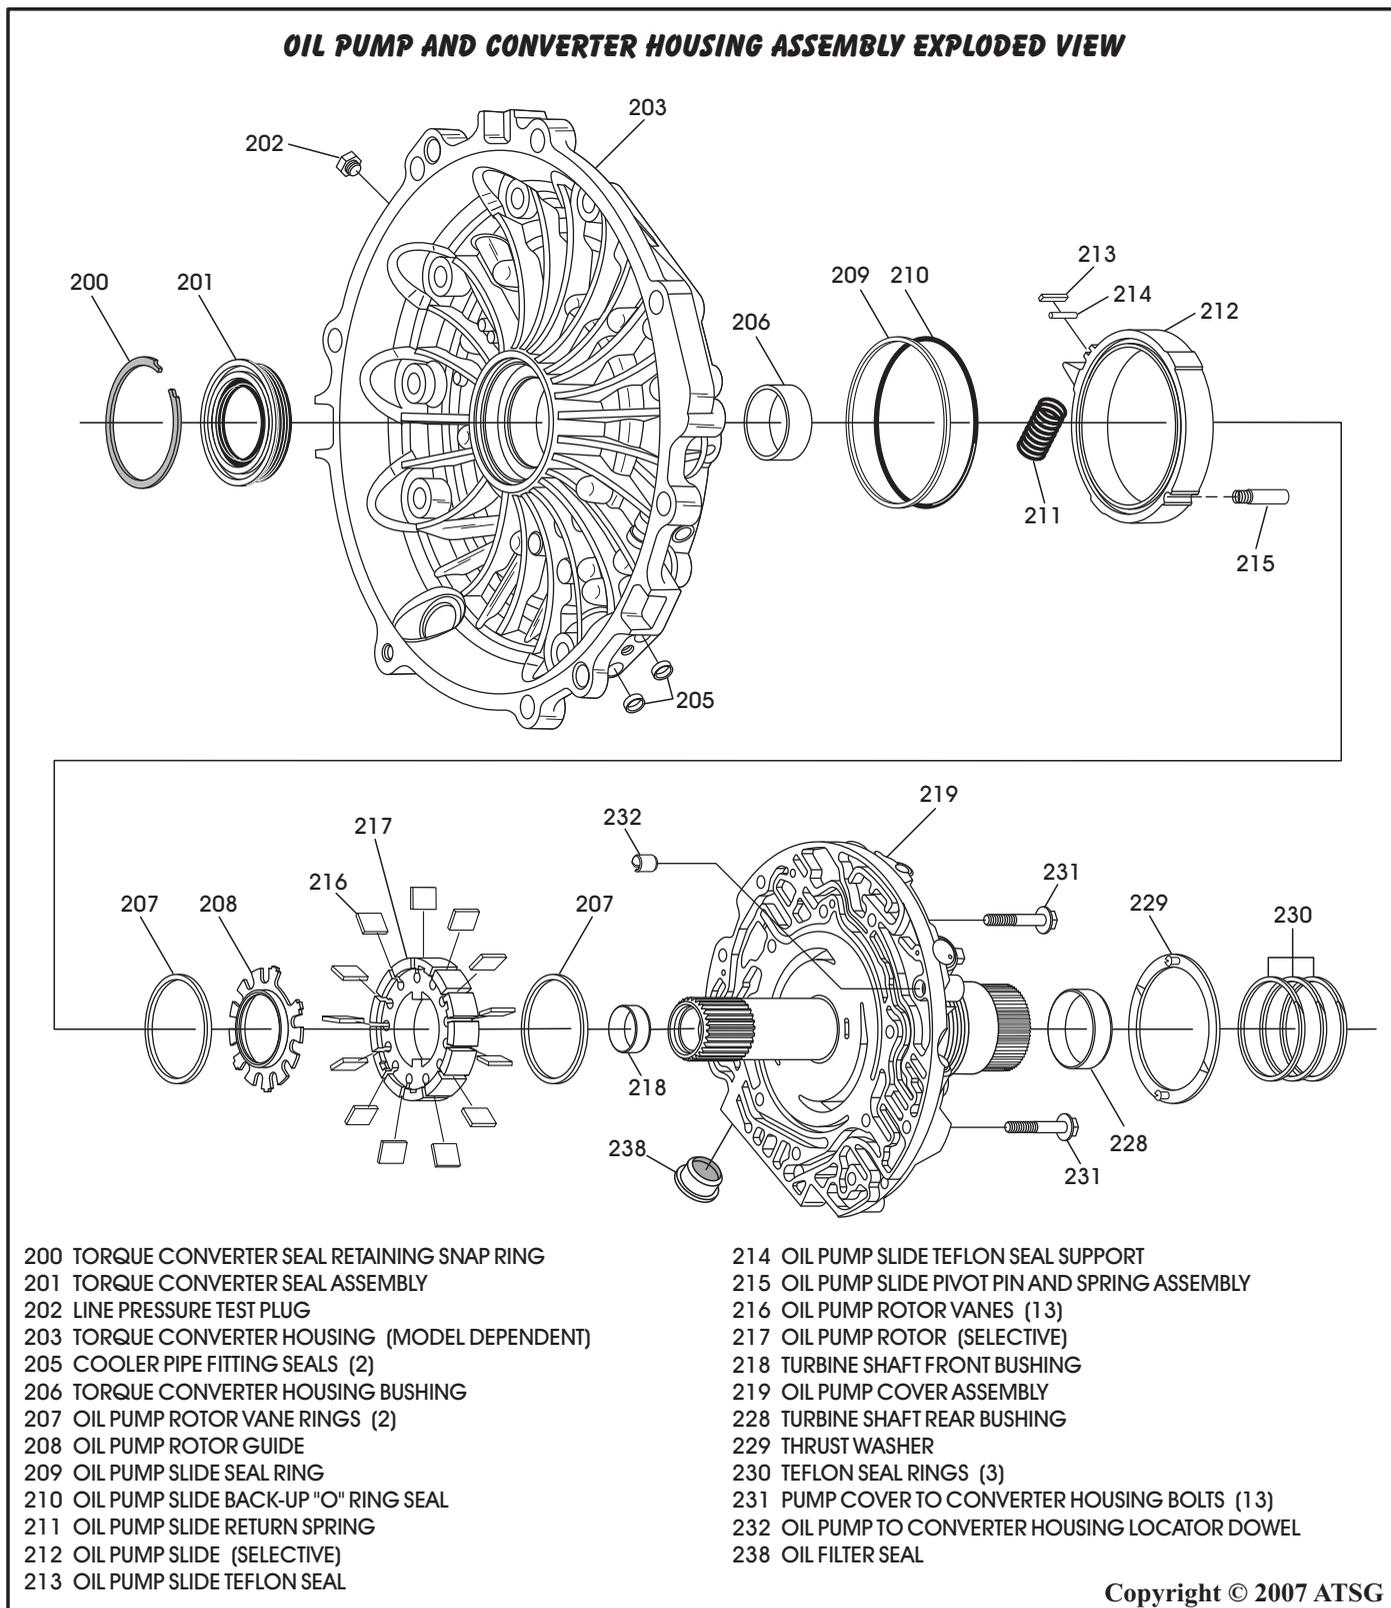

Figure 59
2. All of the components shown in the exploded view in Figure 59 will not be disassembled during the rebuild process.